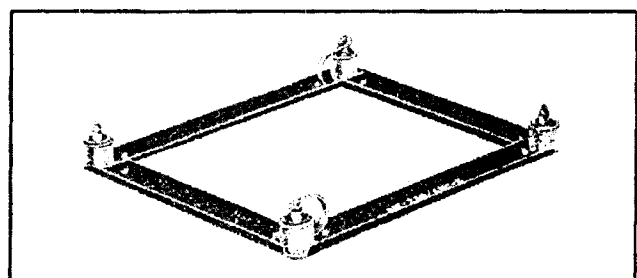

Figure 2. Transmitter Mount MT-238/ARC-3
(1) **TRANSMITTER.**—Align the four holes in the base of Transmitter T-67/ARC-3, with the four studs on Mount MT-238/ARC-3. (See fig. 2.) Each side of the transmitter base contains two snap-slide fasteners